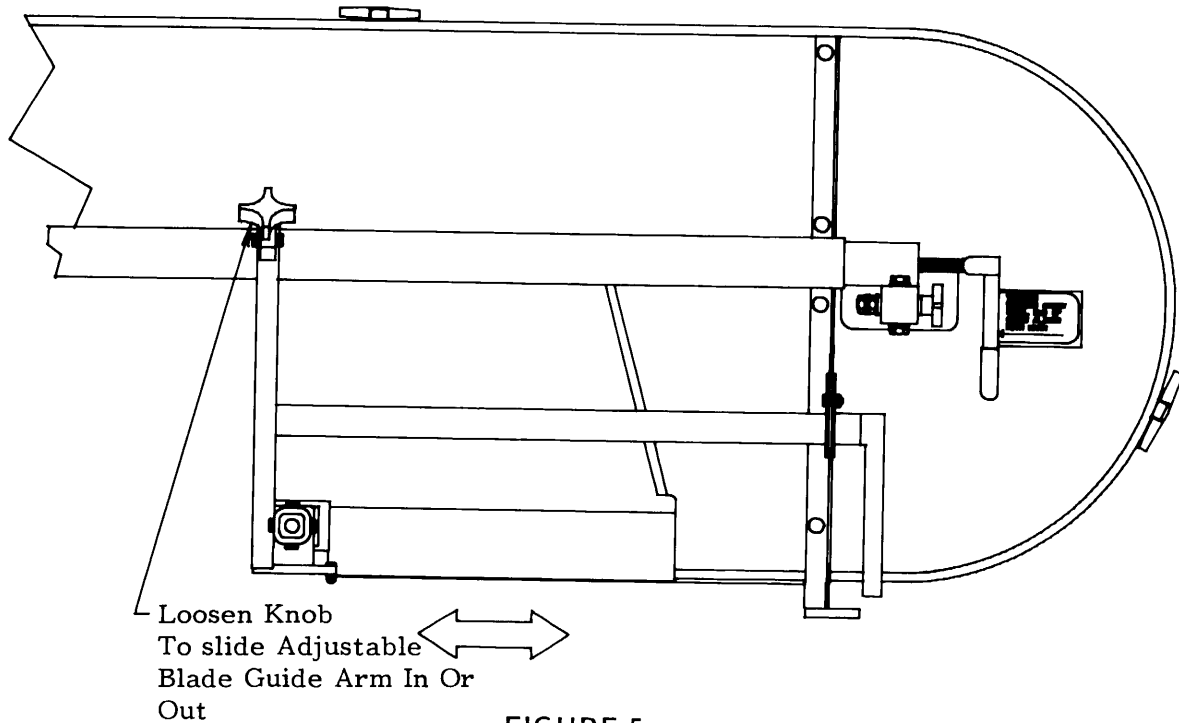

FIGURE 5
- Adjust the width of the throat by sighting down the log to determine its maximum width. The movable blade guide should be adjusted to clear the widest section of the log by less than one (1) inch. This is done by loosening the clamping knob and sliding the movable blade guide horizontally in or out as necessary. (See Figure 5.) (NEVER adjust the throat width while the blade is moving.)